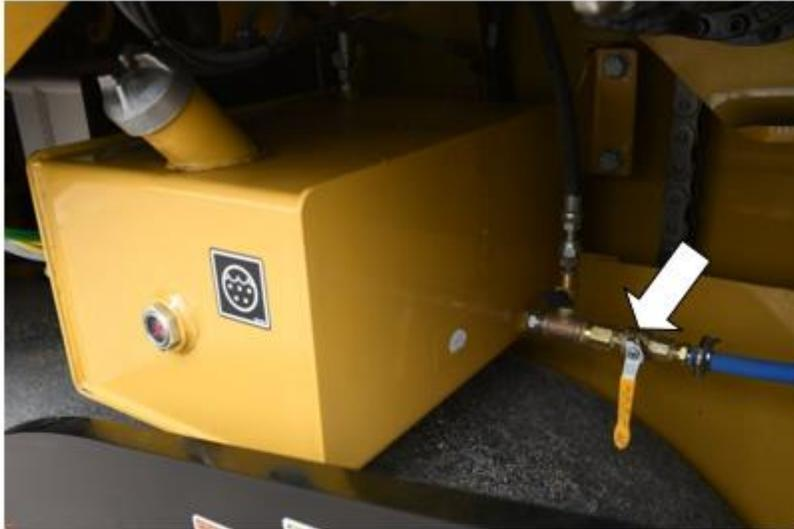

Figure 49: Clean out tank manual ball valve
2. Open the manual ball valve at the clean out tank (see Figure 49).